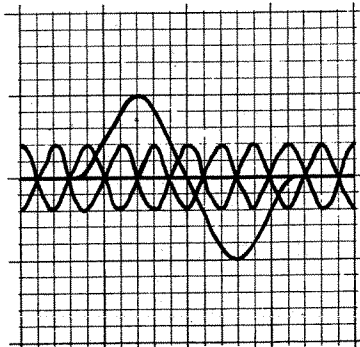

FIG. 11. DISCRIMINATOR RESPONSE — 400 CYCLE MODULATION
10. Turn the SIGNAL SWITCH to MOD. R.F. A pattern similar to figure 11 will appear on the oscilloscope if the discriminator secondary is not aligned perfectly. Reduce the SIGNAL ATTENUATORS to as low a setting as possible with the 400 cycle pattern still showing.